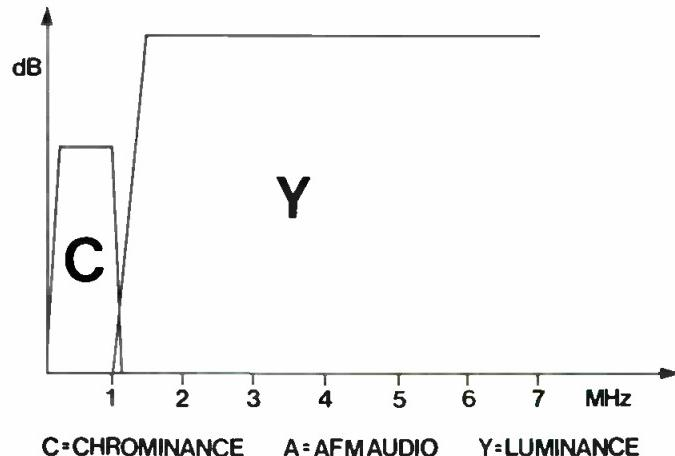

Figure 2. Comparison chart of video head frequency spectrum.
Las Vegas, turns out to be neither PCM digital, nor formed of a color stripe on the edge of the picture (a la Grumman's answer for more audio channels in video). Rather, it comes closer to that obscure Hitachi paper which I quoted earlier, in that it utilizes FM carriers which are modulated by left and right channel audio information. The two extra carriers are nestled in between the chrominance and luminance channels currently used in recording video using the Beta format, as illustrated in simplified form in the lower diagram of FIGURE 2. (In reality, the block of frequencies labeled "A" for AFM audio consists of two separate and discrete carriers—one for left chan-
20 Hz to 20,000 Hz. These performance specifications are summarized and compared with the results presently available from the audio track of a conventional Beta machine in FIGURE 2. (VHS types do just about as poorly, incidentally.)
Figure 2. The DATE system's digital compression. In a low-level signal (A), when the three most-significant bits are 0, the transmitted law bit is 0. At higher levels (B), all three MSBs are not 0, and the law bit becomes 1. In this case the three least-significant bits are discarded.
FIGURE 2 explains the general principle employed for the compression.